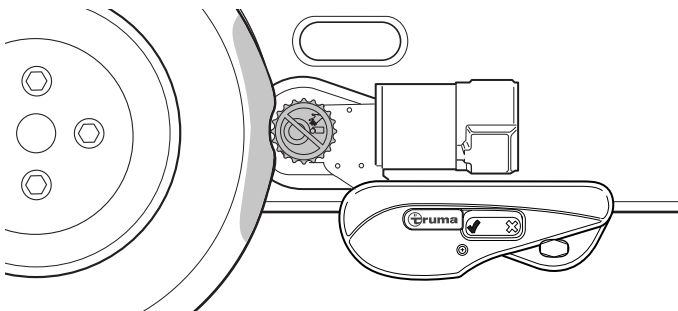

Fig. 16
- The drive rollers are pressed approx. 20 mm into the tyres on both sides (Fig. 16).